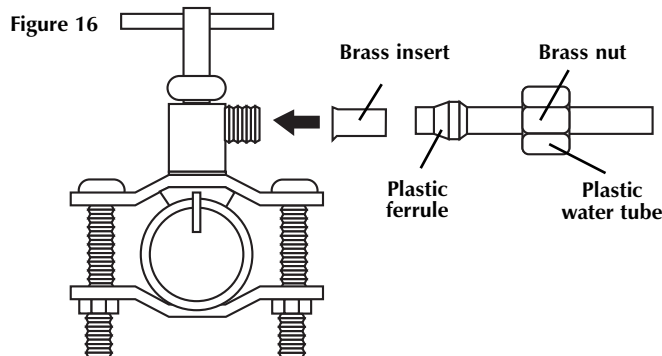

Figure 16
4. Select the most convenient location for connecting the self-piercing needle valve on a cold water pipe. Connect the needle valve as shown (fig 16). The hardware shown is supplied in the needle-valve kit. Once the valve is connected to a pipe as shown, TURN THE VALVE CLOSED ALL THE WAY, and then open so water can flow to the humidifier. Check all fittings for leaks and tighten/repair if necessary.